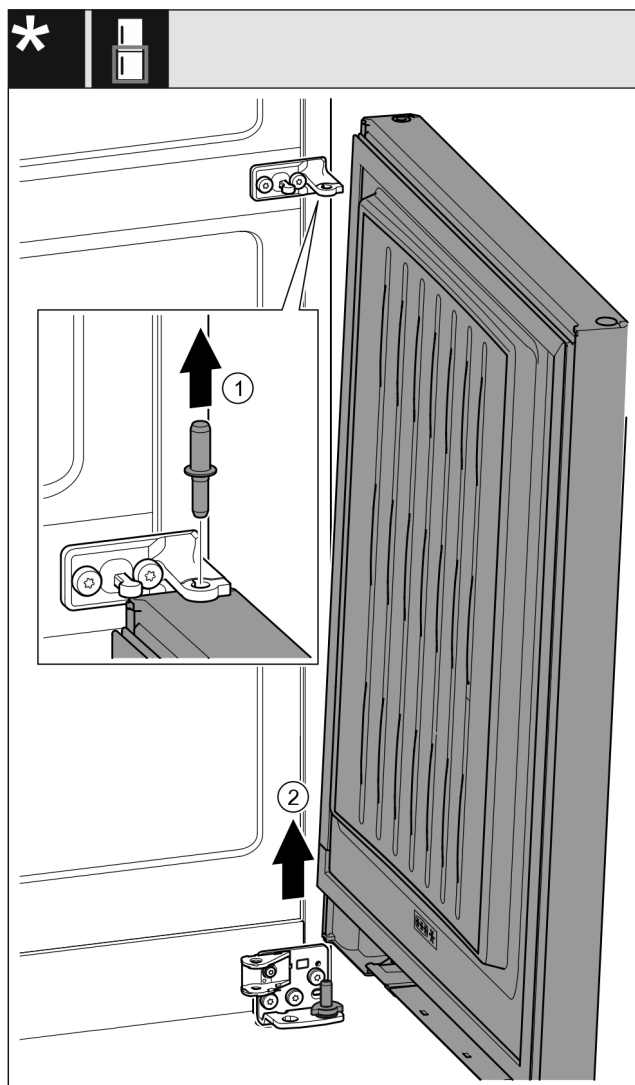

Fig. 24 *
- Pull out the pin Fig. 24 (1) upward.*
- Swivel out the door Fig. 24 (2), pull it upward, and set it aside.*